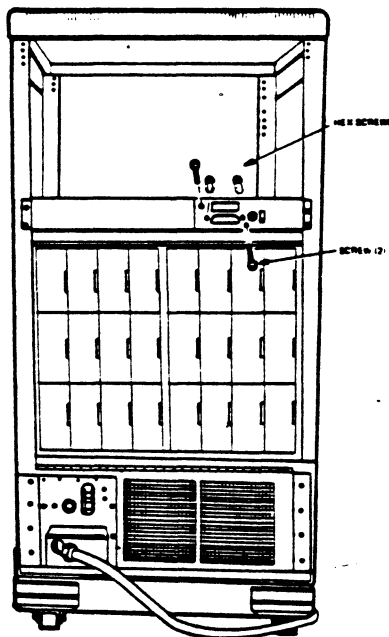

FIGURE 5-28 CABINET SLU ASSEMBLY REMOVAL
8. Unplug the cable from the SLU assembly connector. See Figure 5-28.